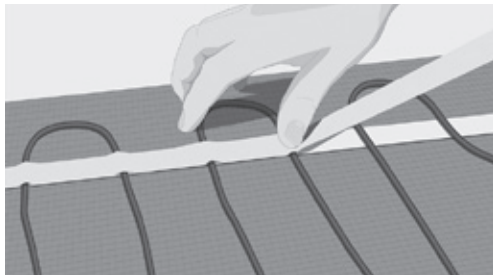

Fig. 8. Lock the cable in with masking tape
11. Secure the cable with masking tape on top of cable and double-sided tape. Press the tape thoroughly onto the cable to prevent air holes from forming during the embedding procedure (Fig. 8).